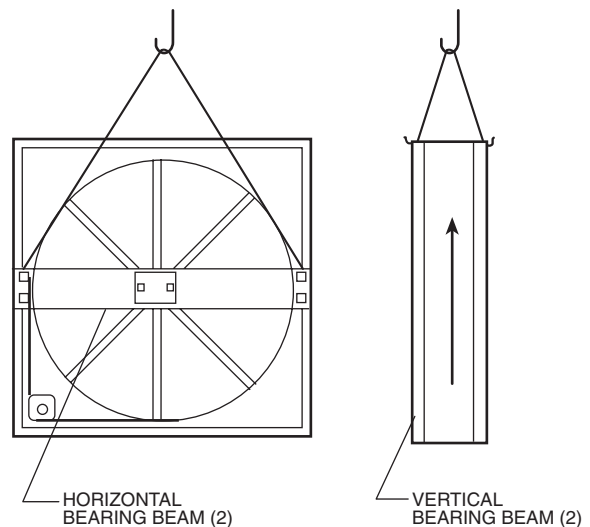

Fig. 80 — Lifting Hole Locations
2. Handle ERV cassettes with care. Lift by the bearing support beam. Holes are provided on both sides of the bearing support beams to facilitate rigging (Fig. 80).